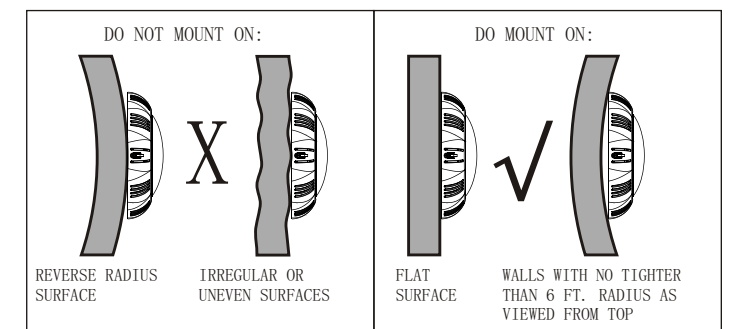

Figure 3.
3. If pool surface is to be plastered, you must allow proper concrete cutback for plaster thickness. Finish concrete surface must be flush with Mounting Spacer. CAUTION: Finish area surrounding Mounting Spacer MUST be flat and flush with the face of Mounting Spacer, this ensures a snug fit between light and wall, see Figure 3.